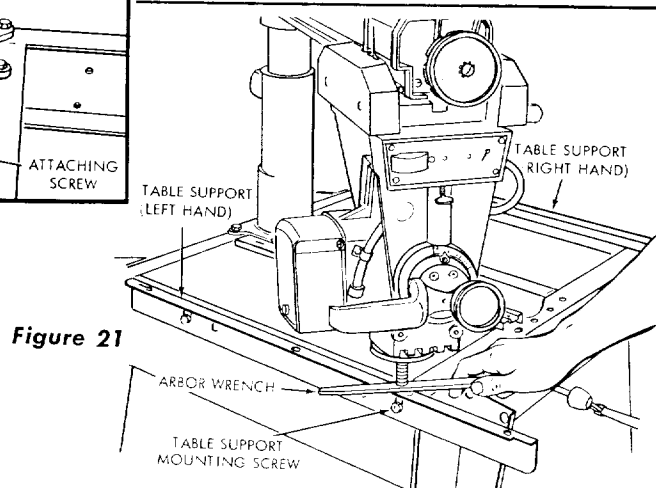

Figure 21
- j. Move the motor to the forward end of the left-hand table support, over the front mounting screw (figure 21), and adjust the forward position up or down as required.